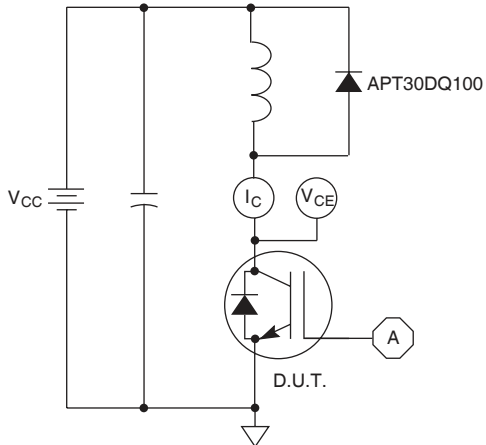

Figure 21, Inductive Switching Test Circuit
- ① Repetitive Rating: Pulse width limited by maximum junction temperature.
- ② For Combi devices, I_{ces} includes both IGBT and FRED leakages
- ③ See MIL-STD-750 Method 3471.
- ④ E_{on1} is the clamped inductive turn-on energy of the IGBT only, without the effect of a commutating diode reverse recovery current adding to the IGBT turn-on loss. Tested in inductive switching test circuit shown in figure 21, but with a Silicon Carbide diode.
- ⑤ E_{on2} is the clamped inductive turn-on energy that includes a commutating diode reverse recovery current in the IGBT turn-on switching loss. (See Figures 21, 22.)
- ⑥ E_{off} is the clamped inductive turn-off energy measured in accordance with JEDEC standard JESD24-1. (See Figures 21, 23.)
- ⑦ Continuous current limited by package lead temperature.